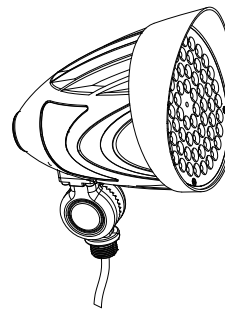

Figure 1
1. Unpack the bullet flood light from its packaging. Inspect product for defects due to shipping. (Figure 1)